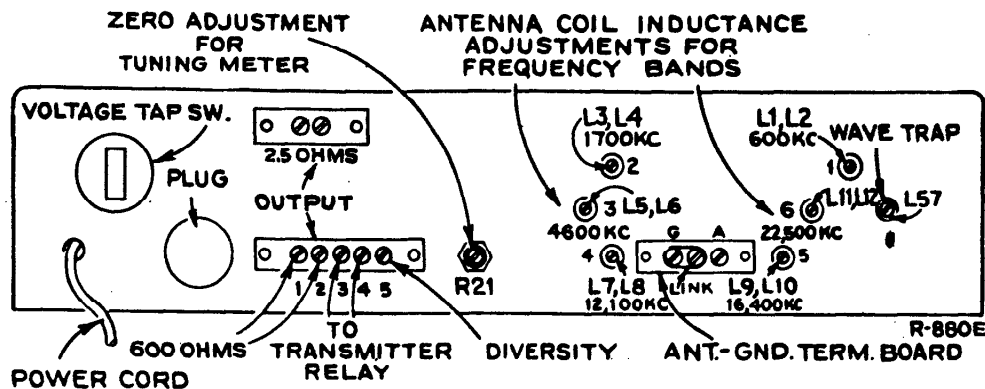

Figure 3—Diagram of Rear of Chassis
The antenna terminal board is provided with three terminals (see Figures 3 and 6), two of which may be joined together with a link. When a single wire antenna is used, the link should be closed and the antenna connected to "A." If a ground is used, it should be connected to "G." If a transmission line or balanced input is used, the link should be opened and the line connected to terminal "A" and the center terminal.
Power Pack—The power pack mounted on the receiver chassis consists of a power transformer, rectifier tube RCA-5Y3GT, and filter. A tap switch is provided on the rear apron for changing the power transformer voltage tap. (See Figures 3 and 6.) The voltage for which the switch is set may be read directly on the switch. The instrument may also be operated from 6V. "A" and 250 to 300 V. "B" batteries, or Vibrator Power Supply Unit MI-8319.
Speaker—Terminals for connection of a loud-speaker are indicated in Figures 3 and 6. The output transformer is designed to match a speaker having 2.25 ohms impedance.
2. Transmit position which gives energized tube filaments, open plate circuits, and shorted terminals for transmitter relay on the speaker terminal board on the back of the chassis. Connect relay to these two terminals for transmitter operation. See Figure 3.
Diversity Reception—Connect together the terminals marked "diversity," Figure 3, on two or three of these receivers, and equip each receiver with a separate antenna. The "diversity" terminal is connected inside the receiver to the AVC circuits. Tune as explained.
detector. It controls the first and second R-F and first and second I-F tubes. The tuning meter is connected in the cathode circuit of the 1st I-F tube and thus records changes in cathode current caused by changes of AVC voltage applied to the grid. The tuning meter should normally give a low scale reading when no signal is being received. To adjust this meter, tune the receiver to a point free of signals, turn the sensitivity control to maximum, switch in AVC, switch crystal "Out," have antenna trimmer turned off resonance, and then adjust the potentiometer R21 at the back of the receiver, as shown in Figure 3, until the meter pointer just coincides with the mark at the low end of the scale. The meter will usually rise slightly when the antenna trimmer is tuned to resonance.